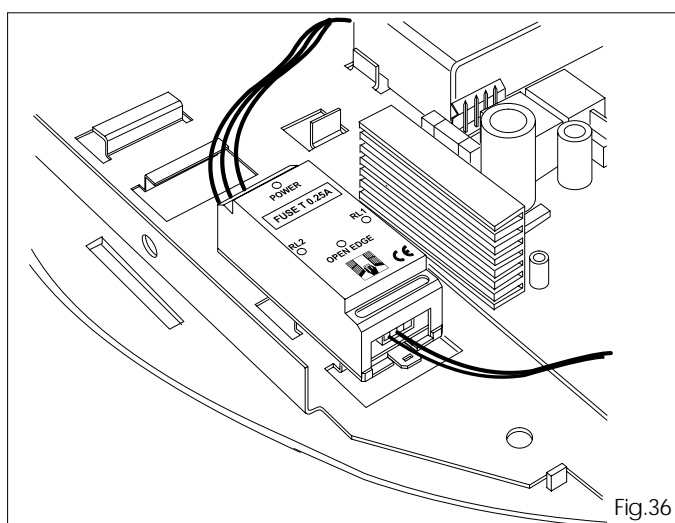

Fig.36
- If you are using the card for the CN60-E Sensitive Edge, a compartment is provided for it inside the operator housing in the position shown in figure 36.